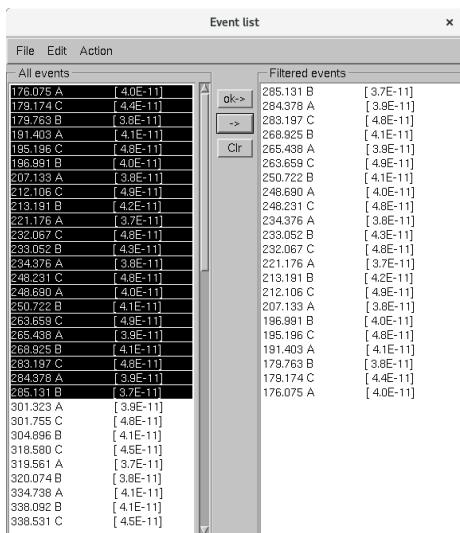

Figure 69: Transfer classified events to Filtered events list.
- Review the events and move the good events into the filtered events in Event lists one by one or by selecting a list them, then press -> (Figure 69).